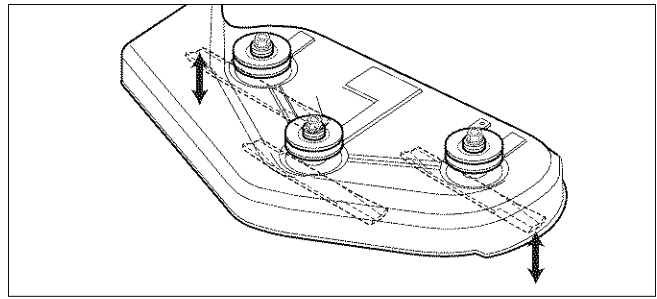
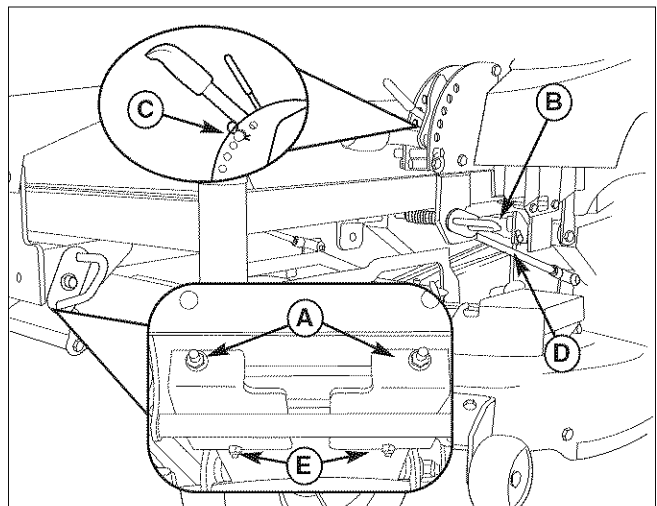

Figure 31. Orient Blades Side-to-Side
Figure 33. Mower Leveling
3. Place the mower cutting height pin in the 4th hole from the bottom (see insert, Figure 33). Arrange the outside mower blades so that they are pointing from side-to-side (Figure 31).
4. Measure the distance between the outside tips of each blade and the ground (Figures 31 & 32). If there is more than 1/8" (3mm) difference between the measurements on each side, proceed to step 5. If the difference is 1/8" (3mm) or less, proceed to step 6.
8. Check the length of the hanging rods. The rear (D, Figure 33) should be 15" (38,1cm) and is not adjusted. To adjust the pitch of the mower deck, adjust the front leveling nuts only.
9. Loosen the front lock nuts (E, Figure 33).
10. Turn the leveling nuts (A, Figure 33) counter-clockwise to lower the front of mower deck. Turn the nuts clockwise to raise the front of the mower. Make adjustments in small increments, trying to keep tension on both leveling nuts.
11. Tighten the front lock nuts (E).